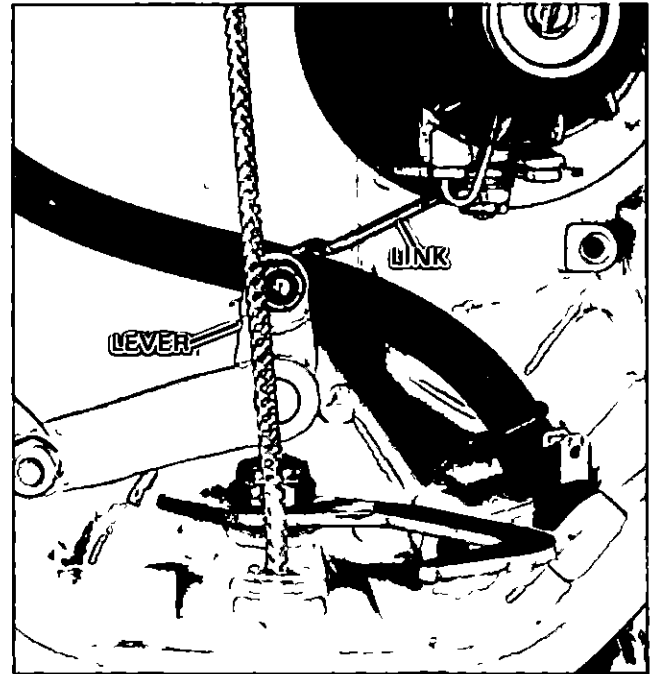

Figure 10 Disconnecting Interlock Link from Gear Shift Shaft Lever.
B Remove stop nut, two (2) washers and two (2) O rings securing interlock link to gear shift shaft lever Figure 10